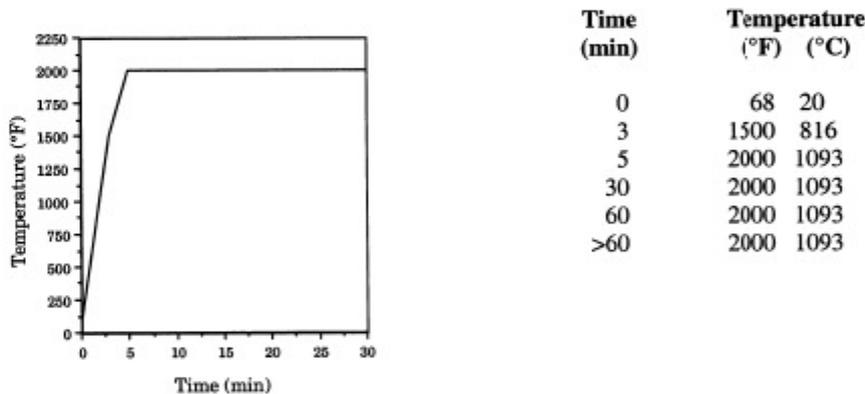

Figure 1 E1725 (Hydrocarbon Fire) Temperature Exposure
- 3.4 The fire exposure was controlled to conform with the standard time-temperature curves shown in Figure 1 as determined by the tables below: